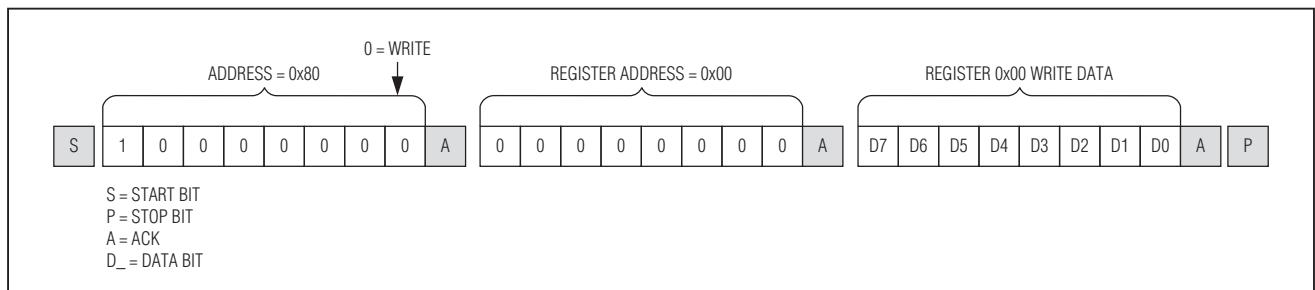
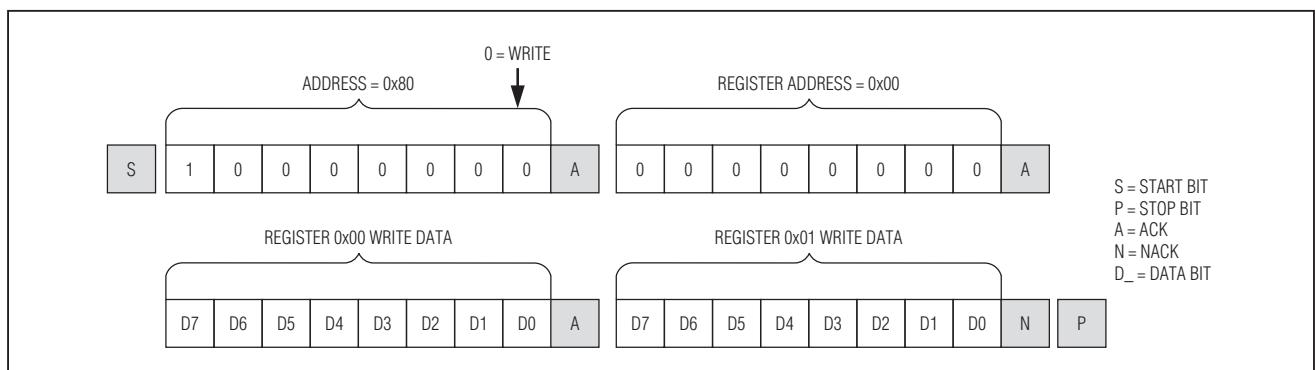

Figure 28. Format for I2C Write
Figure 29. Format for Write to Multiple Registers
followed by at least one byte of information. The first byte of information is the register address or command byte. The register address determines which register of the device is to be written by the next byte, if received. If a STOP (P) condition is detected after the register address is received, the device takes no further action beyond storing the register address (Figure 28). Any bytes received after the register address are data bytes. The first data byte goes into the register selected by the register address, and subsequent data bytes go into subsequent registers (Figure 29). If multiple data bytes are transmitted before a STOP condition, these bytes are stored in subsequent registers because the register addresses autoincrement.